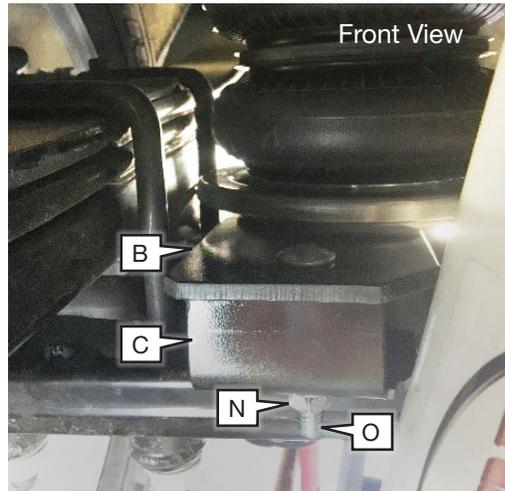

fig. D.16
2. Place the assemblies on the lower strike plate with the fitting side of the assembly to the outside (wheel side) of the vehicle. Align the tab on the forward clamp bracket (C) with the hole on the front of the lower bracket (B) (Fig. D.16).
3. Insert two carriage bolts (O) on the front and rear square holes of the lower bracket (B) (both sides) (Figs. D.16 & D.17).